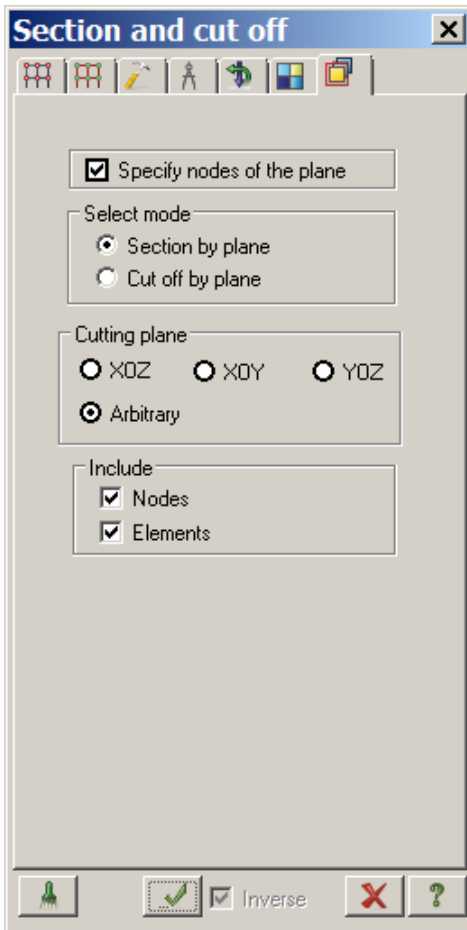

Figure 5.14 PolyFilter dialog box (Section and cut off tab)
- ⇒ In the **PolyFilter** dialog box, select the **Section and cut off** tab (see Fig.5.14).